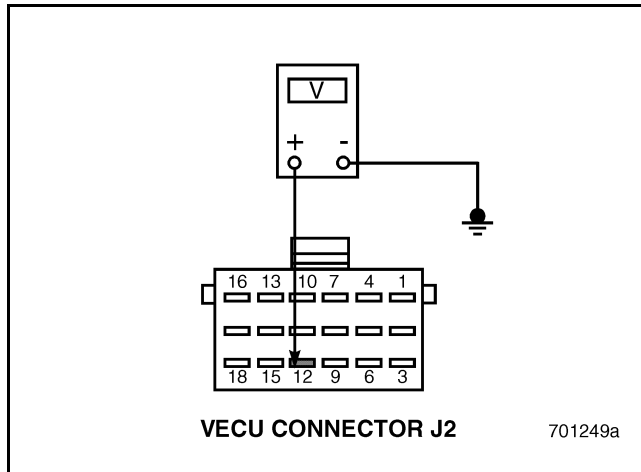

Figure 451
4. Measure the voltage between VECU connector J2 pin 12 and a good ground (see Figure 451).